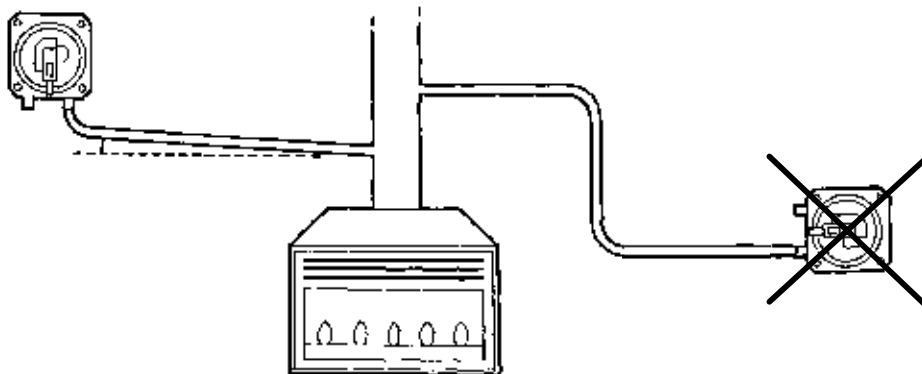

Fig. 7. Condensate drainage
- Provide condensate drainage by gradually sloping tubing towards the exhaust pressure inlet (fig. 7.)